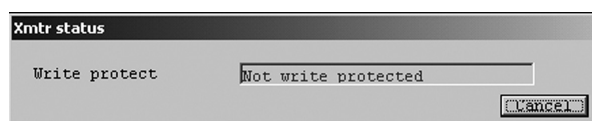

Fig.81
- ② A message box like the one shown in Fig. 81 appears. You can grasp the status of the transmitter.